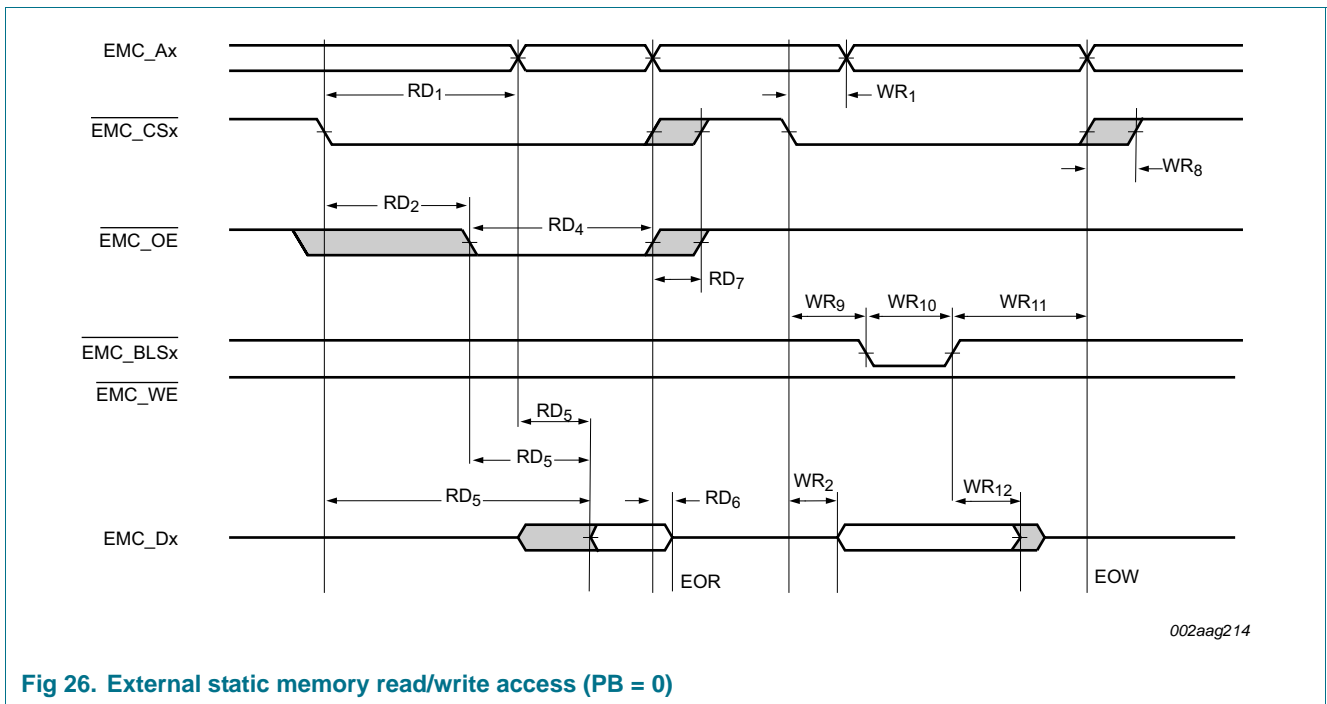

Fig 26. External static memory read/write access (PB = 0)
- [1] Parameters are shown as RD_n or WD_n in Figure 26 as indicated in the Conditions column.